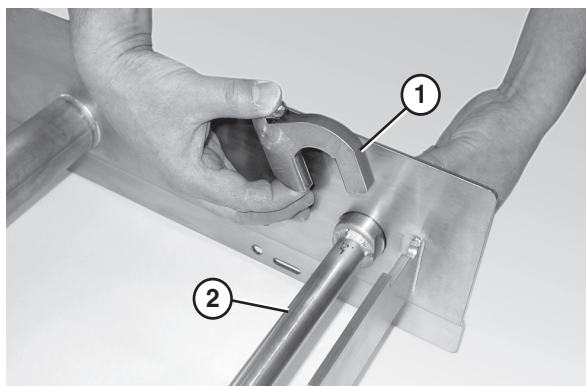

Figure 13
2. Attach the key stops (**Figure 13, item 1**) to the tip up shaft (**Figure 13, item 2**). The rounded end of the key stop should be facing the tail.